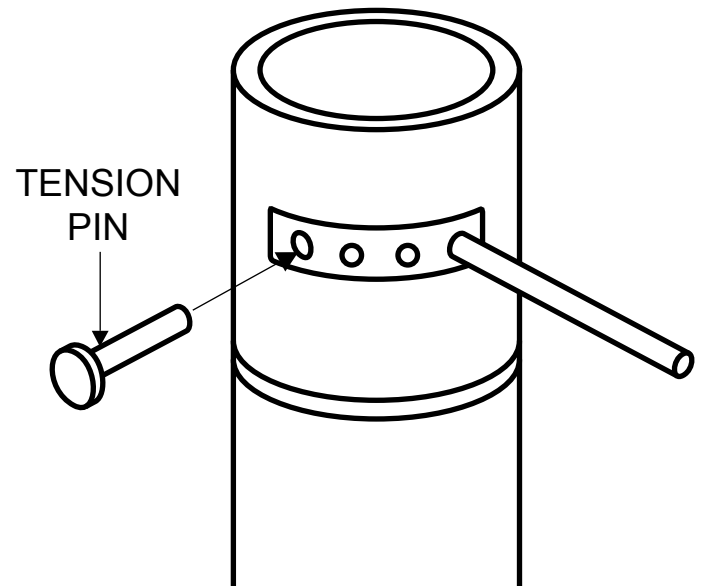

FIGURE 2
- B. Insert tension pin to desired tension hole as shown in figure 2.